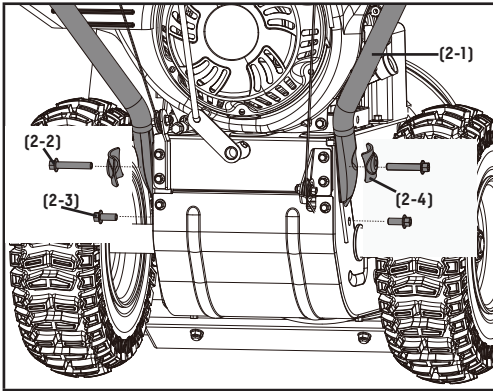
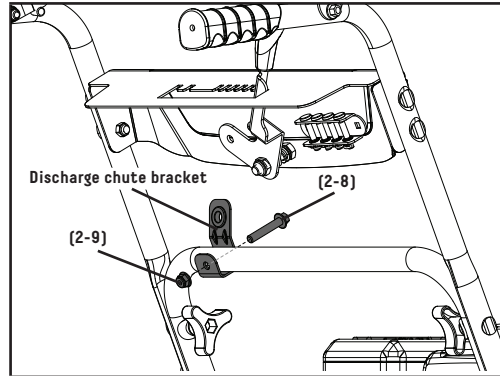

Figure 1
Figure 3
1. Remove wheels before handle assembly. Attach the lower handle (2-1) onto the unit body with bolts (2-2, 2-3) and washers (2-4) (Fig. 1). Repeat on the other side. See Fig. 3 for proper discharge chute bracket mounting hole orientation. Reattach the wheels.
3. Connect discharge chute guide to lower handle with 1 bolt (2-8), and 1 lock nut (2-9) (Fig. 3).